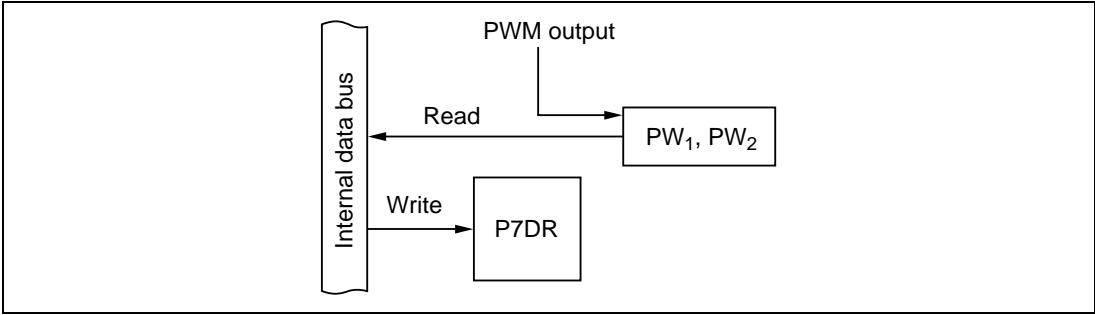

Figure 10-52 PW₂ and PW₁ Output (Modes 1 to 7)
(8) **PW₂ and PW₁ Output (P7₇ and P7₆: Modes 1 to 7):** Figure 10-52 shows a block diagram illustrating the PWM output function. Table 10-42 indicates register read/write data. When P7₇ and P7₆ function as PW₂ and PW₁, data written in the port 7 data register (P7DR) is not output at the pins, but P7DR can be read to monitor the levels of the PW₂ and PW₁ pins.